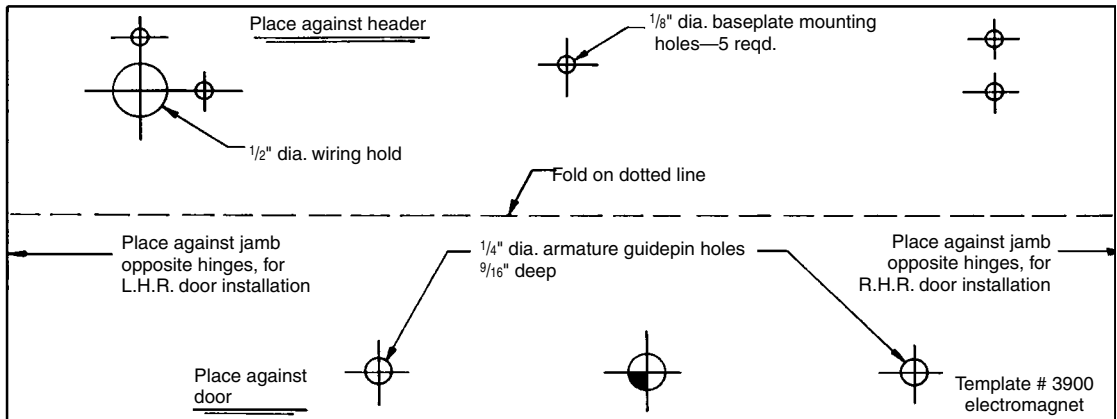

Figure 19.56 Model 3900 lock template. (Security Engineering, Inc.)
1. Fold the template (Fig. 19.56) where indicated to form a 90° angle. For a swinging door, place the template against the door header and door opposite the hinge side of the door jamb. For a pair of swinging doors, place the template against the door and door header at the center of the door opening. Transfer the hole locations to the door and door frame header.
2. Follow the template instructions for the specific hole sizes required. See Fig. 19.56 to determine the proper armature mounting hole preparation. The hole is designated as the mark \oplus in Fig. 19.56.